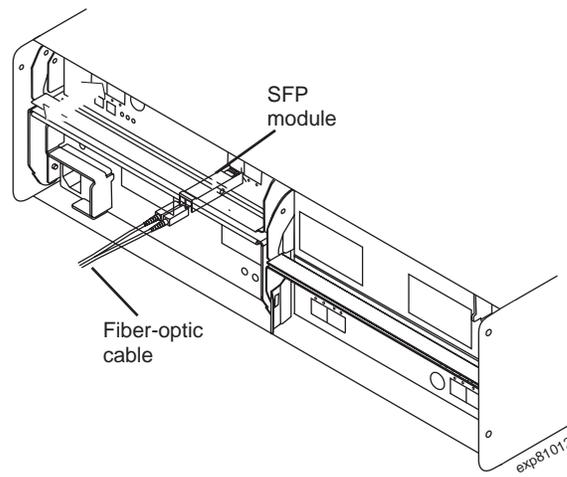

Figure 33. Installing an SFP module and connecting an LC-LC cable to the EXP420
3. Install an SFP module in the SFP port on the back of the EXP420; then, connect the other end of the LC-LC cable into the SFP module, as shown in Figure 33 on page 47.
Note: Figure 33 is for illustrative purposes only. The actual SFP module on your particular DS4000 storage expansion enclosure might appear differently than the one shown in the figure.